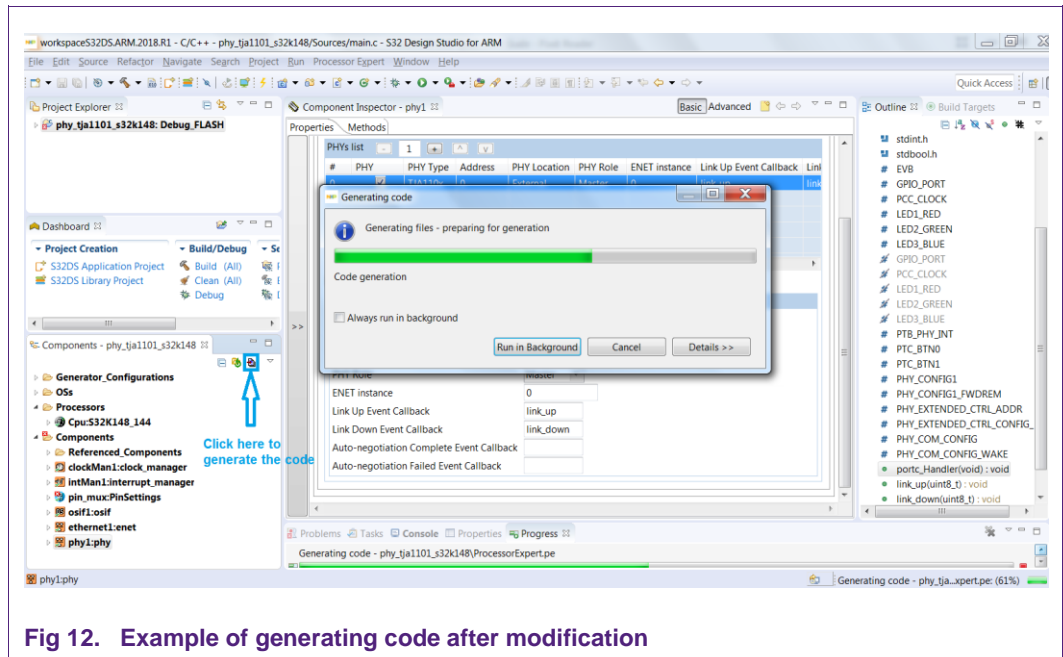

Fig 12. Example of generating code after modification
- Generate the code after modification by clicking the marked symbol in Fig 12 (or by Project -> Generate Processor Expert Code) and watch the progress in the pop up progress bar or the Console window on the lower right pane.